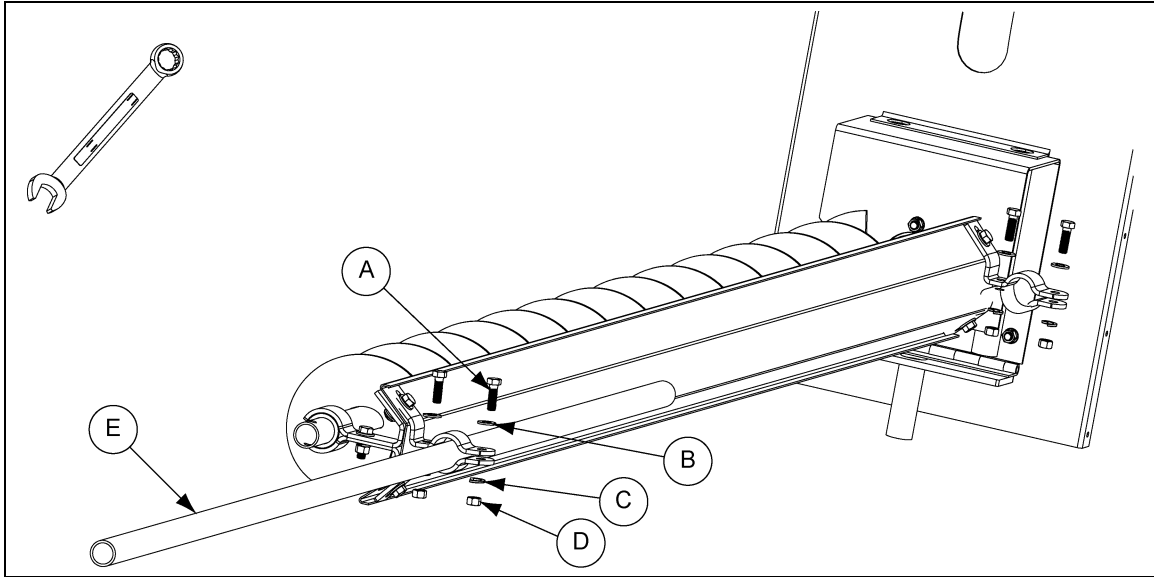

Figure 4M
Step 13: Fit torque tube. (See Figure 4M.)